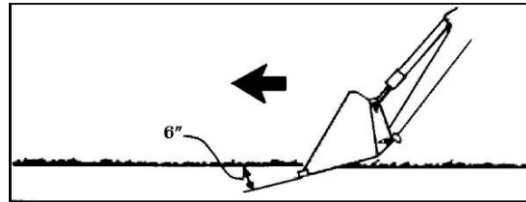

Fig 4.15. Adjustment to the bucket.
- Hold the depth by feathering the bucket control to adjust the cutting lip up or down. When the front tires enter the notch, adjust the lift to maintain proper depth shown in figure 4.15.